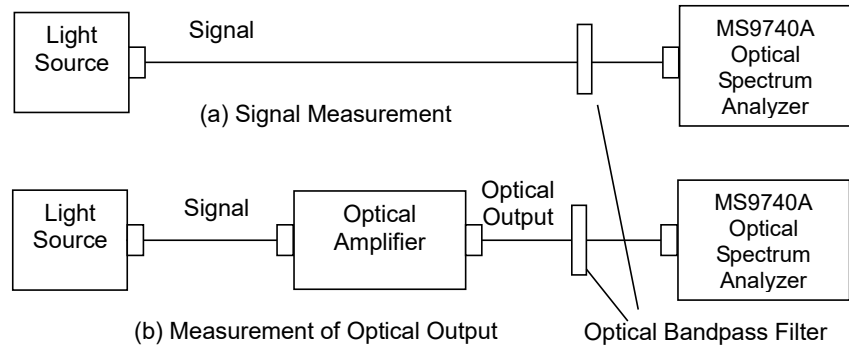

Figure 5.7.3-1 Optical Amplifier Measurement System
7. Input the output light of the optical amplifier to this instrument as shown by the connection in Figure 5.7.3-1 (a).
16. Input the output light of the optical amplifier to this instrument as shown by the connection in Figure 5.7.3-1 (b).